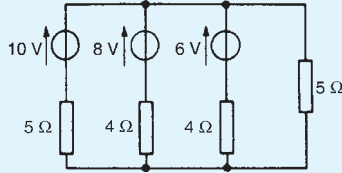

Figure 13.80
- For the network shown in Fig. 13.80, convert each branch containing a voltage source to its